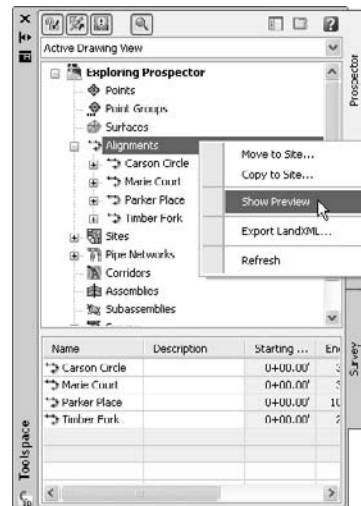

Figure 1.6
5. Right-click on the Alignments branch and select Show Preview as in Figure 1.6.